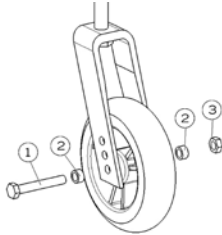

Fig. 26
- Loosen nut (3) and remove bolt (1) (Fig. 26).
- Place spacers (2) between the caster and the fork.
- Tighten nut (3) firmly